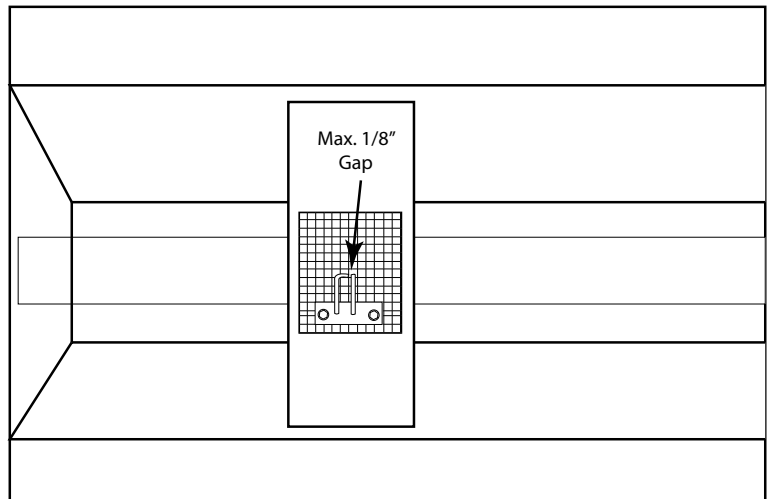

Fig. 8 Proper probe location
Unscrew (counter-clockwise) the Piezo ignitor module red button cap and the plastic mounting nut. Slide the module on the back side of the module cover plate and secure with the plastic mounting nut. Insert the positive end of (1) AAA battery into the ignitor module and carefully screw the red button cap to the ignitor module until snug. Careful not to over-tighten the cap. Attach the extension wires (PIEZO23WH/25WH) to the 2-probe spark ignitor. Careful not to overtighten the cap. Test the ignitor by pushing and holding the red button to ensure the ignitor probes inside the Linear Outdoor Fire are sparking. The spark should be located directly overtop of the burner port hole for proper ignition of the gas (See fig.8). Spacing between the probes should be approximately $\frac{1}{8}$ " for proper spark.
For proper ignition it is important that the ignitor probes be properly aligned overtop of the burner port holes. Use the Fig.8 as a guide. Before lighting remove the screen cover of the ignition hood to burner and ensure the spark probes are directly overtop of a burner port hole. The sparking probes must be in the path of a flame to ignite the gas for proper ignition of the flame. Replace the screen cover and follow the operating instructions.
Note: Do not pour Lava Rock directly from bag. Media should be placed naturally and NOT packed in tight. Loose fitting is important to ensure robust flames. Be sure rocks are free of any excessive dust. This prevents the burner pan weep holes from being plugged and holding water. **IMPORTANT:** Do not place media over top or under the screen cover. The screen must be free of any debris to ensure proper lighting of burner and good flame rectification (See fig. 8).
1. Ensure ignitor is aligned properly overtop of burner port hole. See page 7, figure 8.